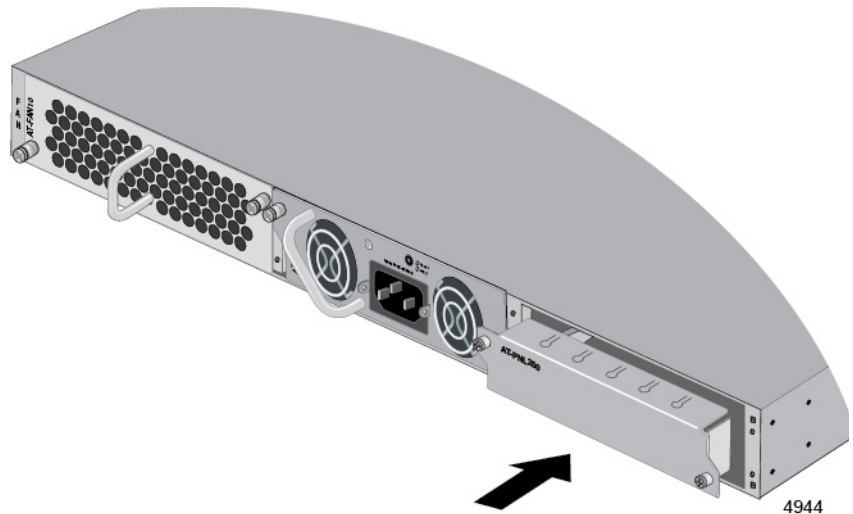

Figure 71. Installing a Blank Panel on a Power Supply Slot
1. Position the appropriate blank panel over the empty power supply slot. Use the PNL800/1200 Blank Panel included in the accessory kit if the switch has only one PWR800 or PWR1200 Power Supply. Use the PNL250 Blank Panel if the switch has one PWR150, PWR150R, PWR250, or PWR250-80 Power Supply. Refer to Figure 71.